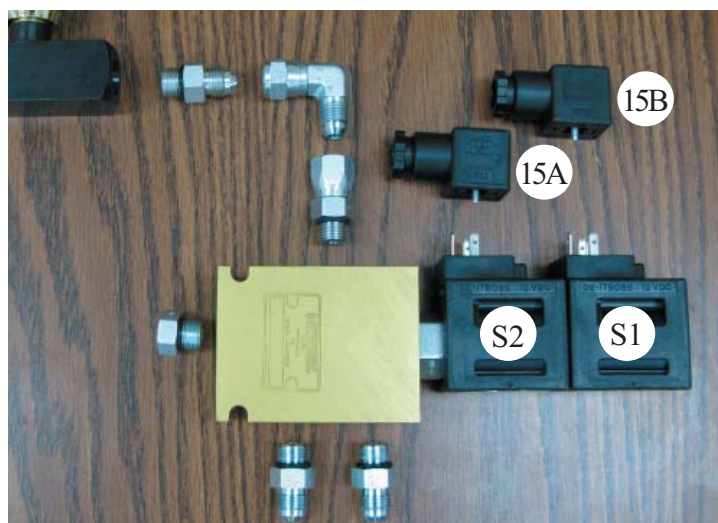

Figure 3.7 - Solenoid Connections
2. Connect the other end of the return line to the valve as shown in *Figure 3.7*.
Refer to *Figure 3.7* for this step.